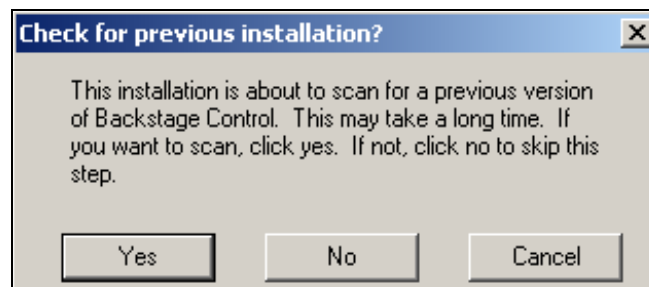

FIGURE 35: Check for Previous Installation? Screen
2. The following screen appears (see Figure 35). The program can automatically detect previous versions of Backstage Control. If the user elects to check for a previous installation, the program will overwrite the existing files. This is useful in the event a special directory that contains the previous version is to be used. If the selection is **Yes** or **No**, skip to Step 4. If you select **Cancel**, continue to Step 3.